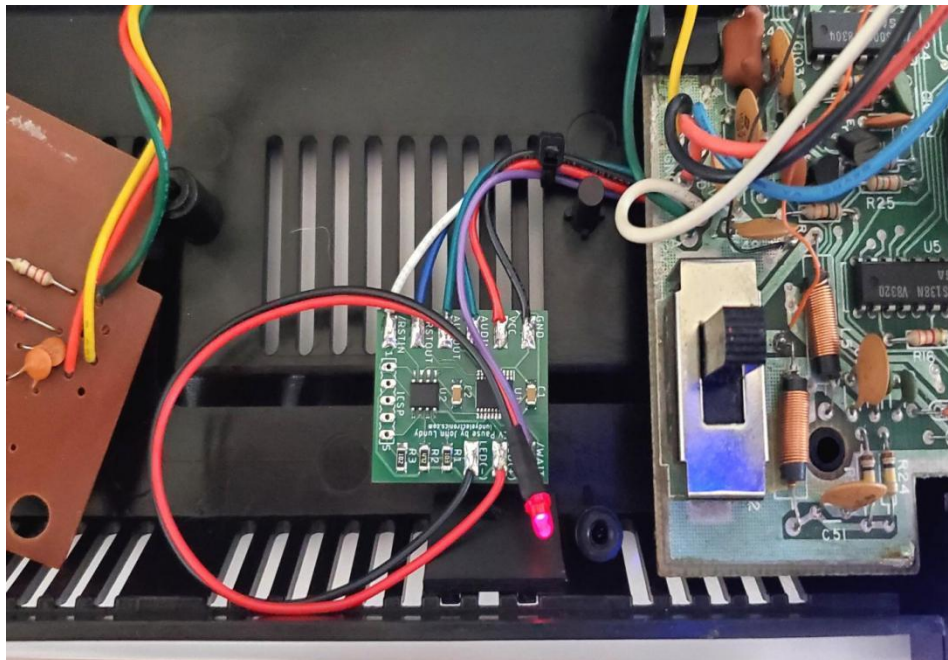

Figure 9: Proper orientation of Pause Mod placement
Step 6: Install ColecoVision PCB without RF shields into lower case housing and safely rest the RF modulator PCB off to the side to test unit for proper operation. See **Figure 9** for proper orientation of Pause Mod placement.